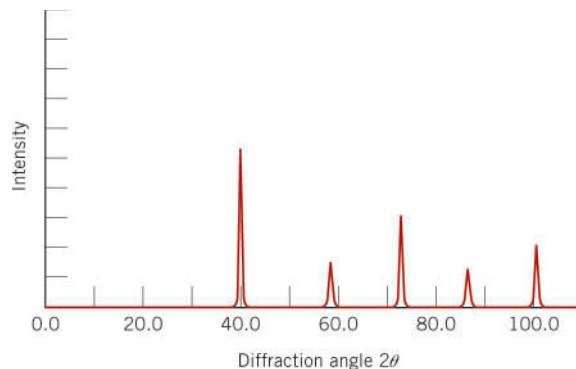

Figure 3.26 Diffraction pattern for powdered tungsten. (Courtesy of Wesley L. Holman.)
3.73 Figure 3.26 shows the first five peaks of the x-ray diffraction pattern for tungsten (W), which has a BCC crystal structure; monochromatic x-radiation having a wavelength of 0.1542 nm was used.